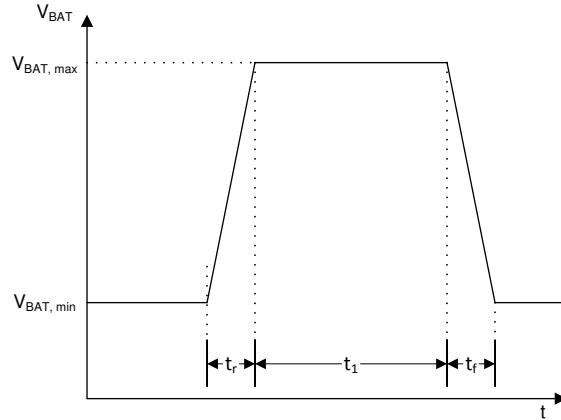

Figure 10-4. Voltage Profile to Test a Jump Start Event
- To emulate a jump start event, voltage profile described in Figure 10-4 is used.